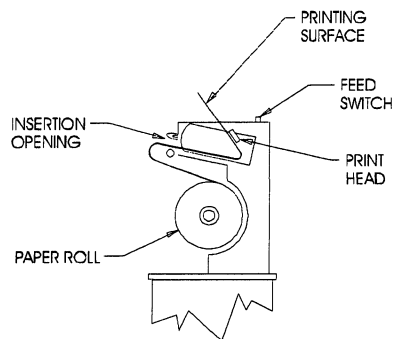

FIGURE 1
C. Using the red pull-tab on the printed circuit board (PCB), carefully pull the printer from its internal cradle, until you feel some resistance (*Figure 1*).
- A. Gently push the paper into the paper feed opening (*Figure 1*).